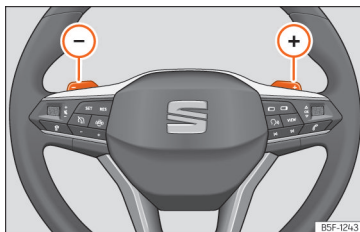

Fig. 139 Steering wheel: automatic transmission levers
- Press the gearshift paddle to select a higher gear »» Fig. 139.